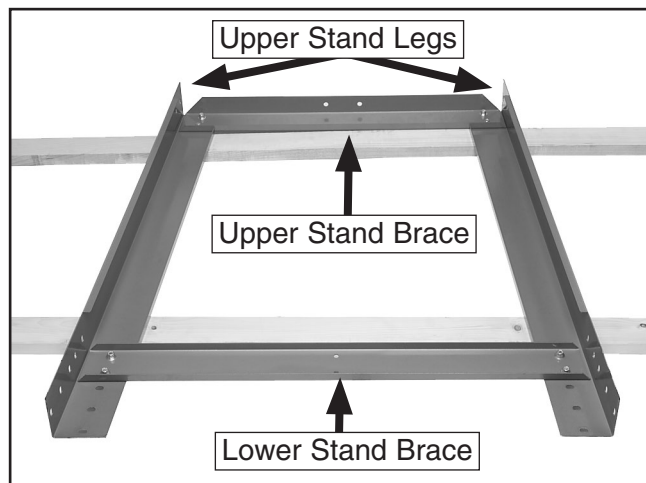

Figure 12. One side of upper stand assembled.
1. Use (8) $\frac{3}{8}$ "-16 x $\frac{3}{4}$ " hex bolts, (16) $\frac{3}{8}$ " flat washers, and (8) $\frac{3}{8}$ "-16 lock nuts to connect 2 upper stand legs, 1 upper stand brace, and 1 lower stand brace —*only finger tighten the fasteners* (see **Figure 12**).